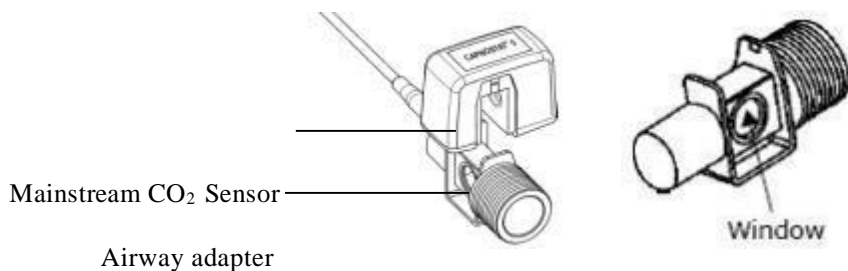

Figure 13-5
- (1) Insert the Mainstream CO₂ Sensor connector into the receptacle of the monitor as shown in the following figure. Make sure the arrows on the connector are at the top of the connector and line up the two keys of the connector with the receptacle and insert.
- (2) Select an appropriate Airway adapter based on the patient and monitoring situation. Verify that the adapter is clean, dry and undamaged. Replace the adapter if necessary. Connect the Mainstream Sensor to the Airway adapter as shown in the following figure. Slides on and clicks into place, shown as Figure 13-5.